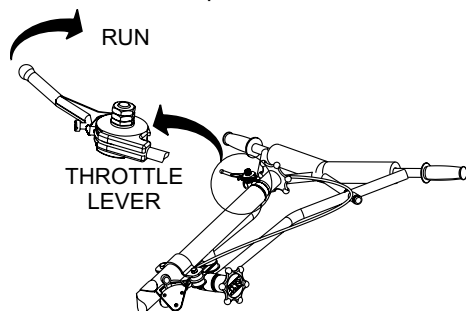

Figure 34. Throttle Lever (Run)
1. To begin troweling, pull the throttle lever (Figure 34) backward to the "RUN" position.